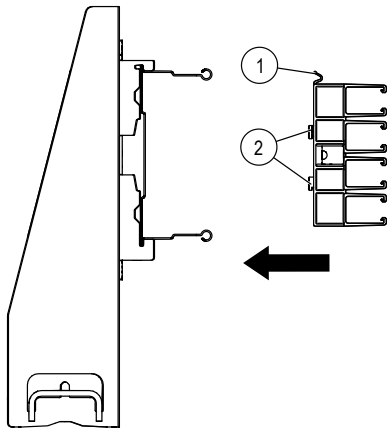
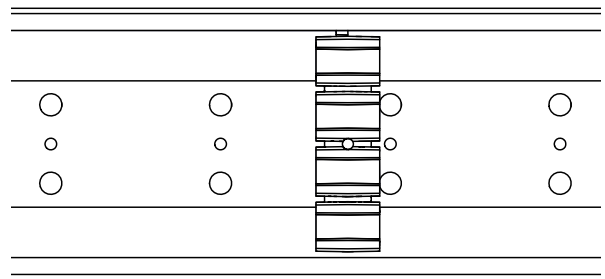

Fig. 20: Locking clip (1) and pin (2) of hanger clamp 0812
Fig. 23: Install hanger clamp 0812 onto ProShell support profile rail 128
1. Hook the locking clip (1) onto the upper frame of the ProShell support profile rail so that by screwing in the hanger clamp, the pins (2) are sunk onto the holes of the ProShell support profile (see Fig. 20 to Fig. 23).